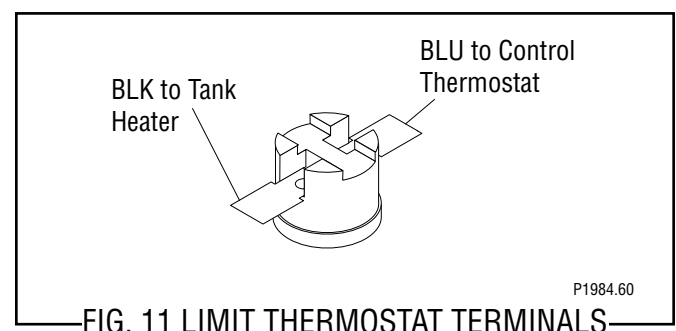

FIG. 11 LIMIT THERMOSTAT TERMINALS
4. Refer to FIG. 11 when reconnecting the wires.